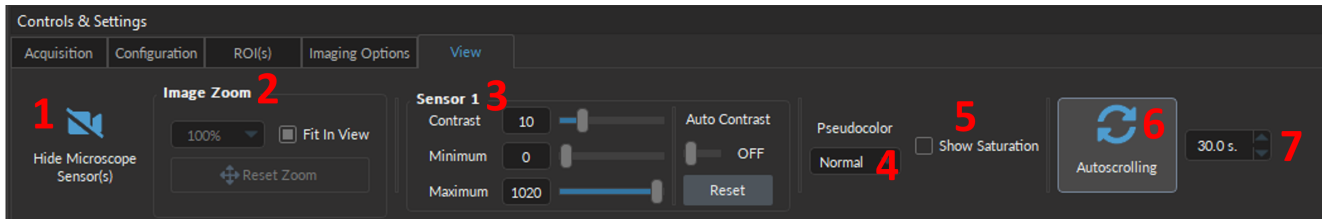

Figure 7.16: View Tab
The **View Tab** (Fig. 7.16) is used to modify the presentation of microscope image and the ROI(s) / Digital IO graphs in the **Acquisition view**.
1. The **Hide Microscope Sensor(s)** button (Fig. 7.16, 1) removes the **Microscope View** from the **Acquisition View**, automatically enlarging the **ROIs / Signal View**. Disabling **Hide Microscope Sensor(s)** (renamed **Show Camera Feed(s)**), re-displays the **Microscope View**.
2. The **Image Zoom** (Fig. 7.16, 2) includes the following:
3. The **Sensor 1** (Fig. 7.16, 3) is used to adjust contrast on a given sensor. When a microscope used has multiple sensors, multiple **SENSOR** sections will be displayed, one for each sensor.
- The **Auto Contrast** (Fig. 7.16, 4) will activate an automatic contrast adjustment algorithm, and will set the contrast to maximize the difference between the maximum and minimum values based on current values collected. The **Reset** button re-adjusts the contrast functions to their default settings, before the algorithm was enabled.
4. The **Pseudocolor** drop-down (Fig. 7.16, 4) maps the pixels values to a pseudocolor range (of 13 possible options) to facilitate viewing.
5. The **Show Saturation** checkbox (Fig. 7.16, 5) is only available when the **Auto Contrast** setting is disabled.. When enabled, saturation pixels will turn red. This function is only available if no pseudocolor is selected.
6. The **Autoscrolling** button (Fig. 7.16, 6), when selected, automatically set the graphs to scroll as new data appears.
7. The **Zoom range** text-box (Fig. 7.16, 7) sets the graph zoom to the value of choice, specified in the text-box.